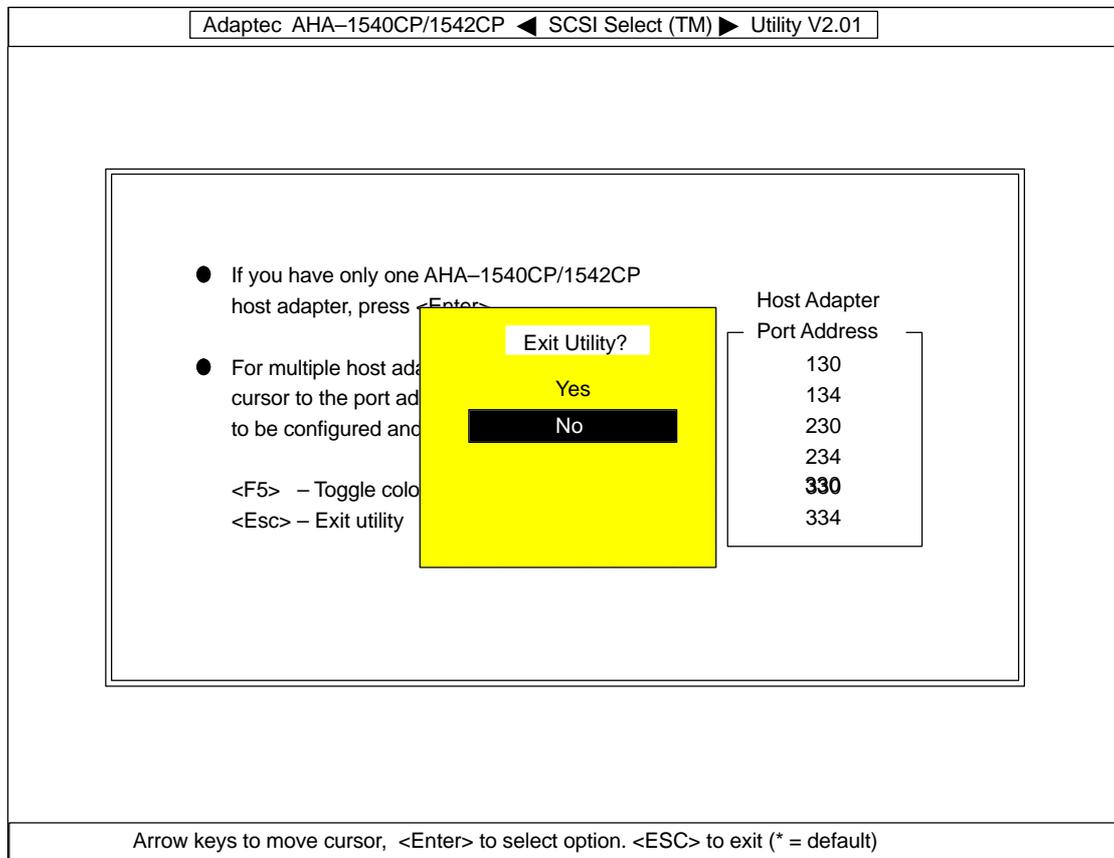

Fig. 4.18 SCSI Select menu 4
- Press ESC until the following message is displayed (see Fig. 4.18).